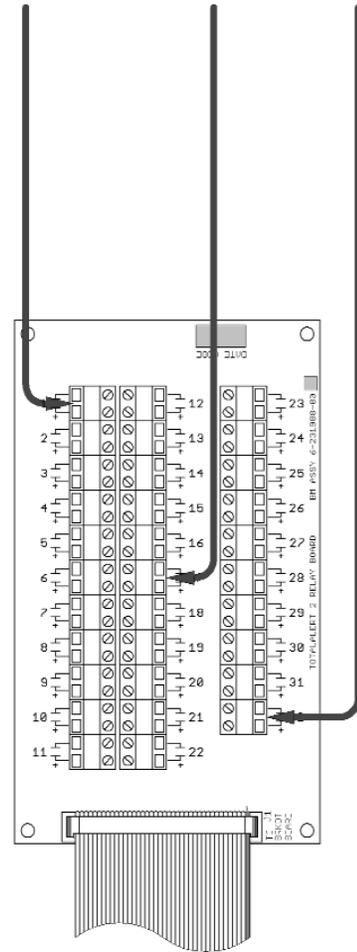

Figure 25: Relay Board Wire Routing
2. Route each pair of relay output signal wires as shown in Figure 25 to appropriate terminals on relay board(s).